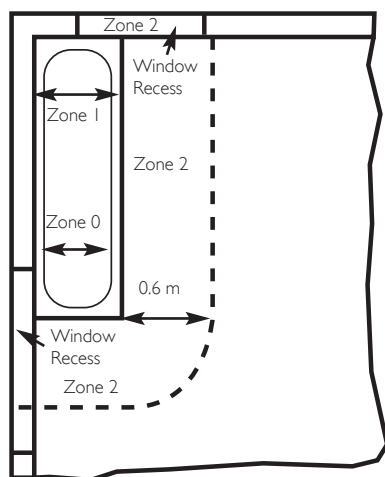

Fig. 11 In GB Only
1. If the boiler is fitted in a room containing a bath or shower and **NOT FITTED** with any optional integral timer or thermostat, it can be fitted in zone 2, (Figs. 11 & 12 shows zone dimensions for a bathtub. For other examples refer to the Current I.E.E. Wiring Regulations) reference must be made to the relevant requirements. In GB this is the current I.E.E. Wiring Regulations and Building Regulations. In IE reference should be made to the current edition of I.S. 813 "Domestic Gas Installations" and the current ETCI rules.